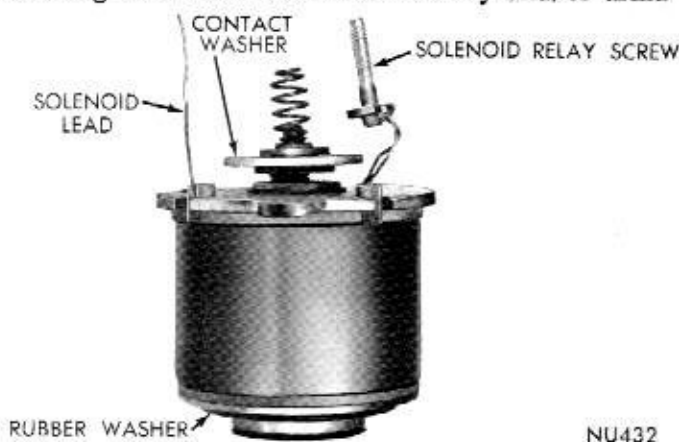
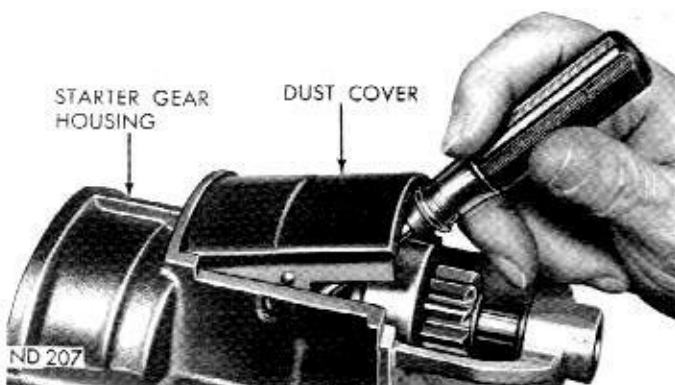

Fig. 4—Solenoid Assembly
Fig. 5—Removing Dust Cover
(7) Remove nut (11/32 wrench), steel washer and insulating washer from solenoid terminal.
(8) Straighten solenoid wire and remove brush holder plate with brushes and solenoid as an assembly.
(9) Remove solenoid assembly from gear housing well (Fig. 4).
(10) Remove nut from starter battery terminal.
(11) Remove starter battery terminal from holder plate.
(12) Remove solenoid contact and plunger from solenoid.
(13) Remove solenoid return spring from well of solenoid housing moving core.
(14) Remove dust cover from gear housing (Fig. 5).